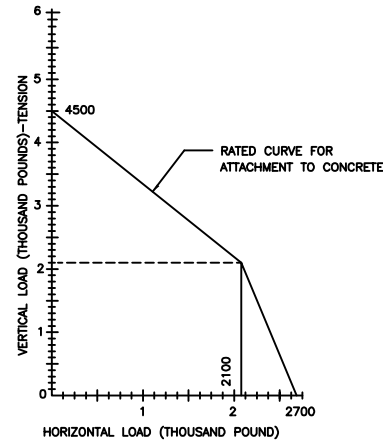

FIGURE 1
1. HORIZONTAL AND VERTICAL RATINGS OF M4S-2E SERIES ARE SHOWN IN FIGURE 1, 2 AND 3. ANALYSIS HAVE BEEN PERFORMED IN ACCORDANCE WITH APPLICABLE CODES
- A. FOUR (4) 5/8" DIA. HILTI "KWIK-BOLT II" WEDGE ANCHORS, WITH MINIMUM 4" EMBEDMENT INTO 3000 PSI NORMAL WEIGHT CONCRETE. MINIMUM EDGE DISTANCE IS 8 1/4". (NOTE: OTHER BRANDS OF ANCHOR BOLTS MAY BE USED, PROVIDED THEY ARE OF EQUAL STRENGTH) TO ACHIEVE RATED LOAD, "SPECIAL INSPECTION" IS REQUIRED ON ALL CONCRETE ANCHOR INSTALLATIONS, AS NOTED BELOW: